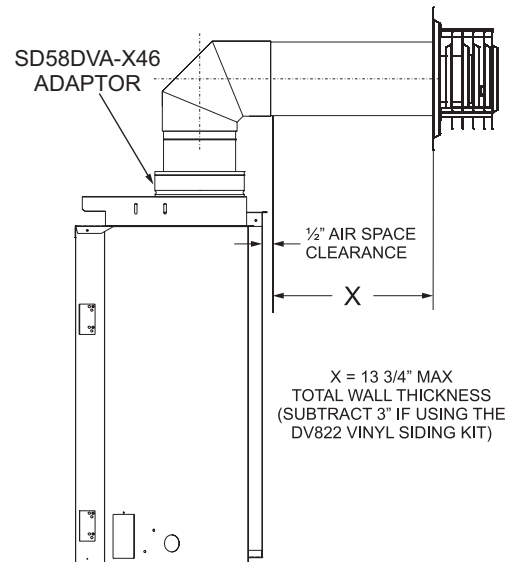

Figure 59
**NOTICE:** A SD58DVA-X46 adaptor must be used in conjunction with the DVVK4RE (top vent connection only). See Figure 59.
If wall depth exceeds 13 3/4" (349mm), extend system using 6 5/8" (168mm) x 4" (102mm) rigid venting (See Fireplace Instructions for approved lengths) See Figure 59.